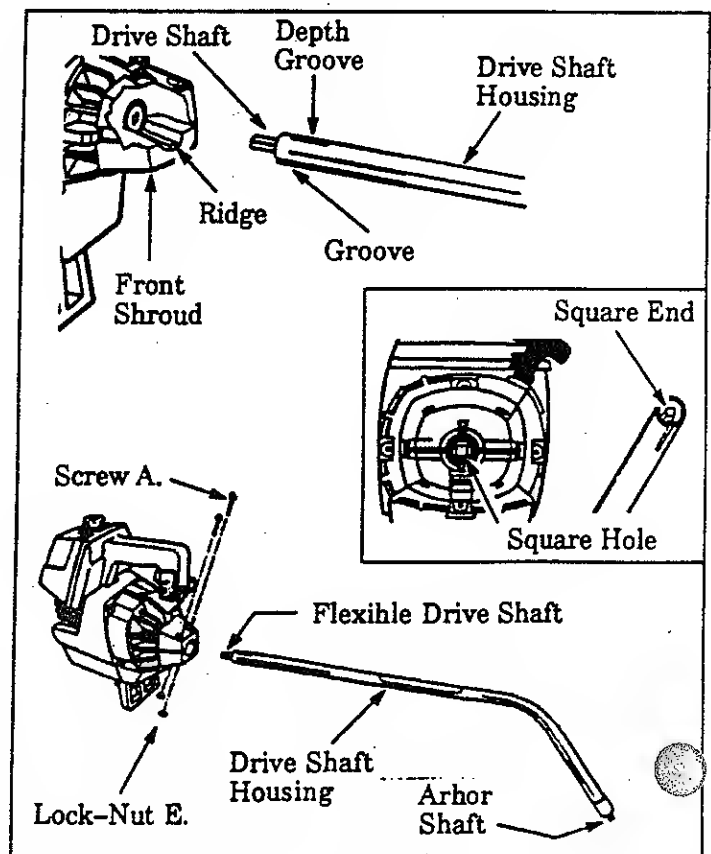

Figure 2
1. DRIVE SHAFT HOUSING (Figure 2)
- Place the two Screws "A." into the holes on the Front Shroud as shown in Figure 2.
- Turn the Arbor Shaft as necessary to align the square end of the Flexible Drive Shaft with the square hole inside the Front Shroud opening. Figure 2 (inset).
- Tighten Screws "A." alternately with the hex wrench until secure. Figure 2.